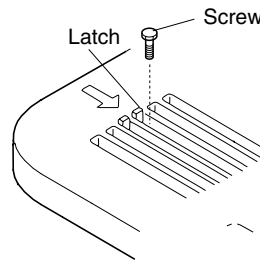

Fig. 9-25b
- (1) Remove the air-intake grille and air filter from the ceiling panel. (Figs. 9-25b, 9-26 and 9-27)
- a) Remove the 2 screws on the latch of the air-intake grille. (Fig. 9-25b)